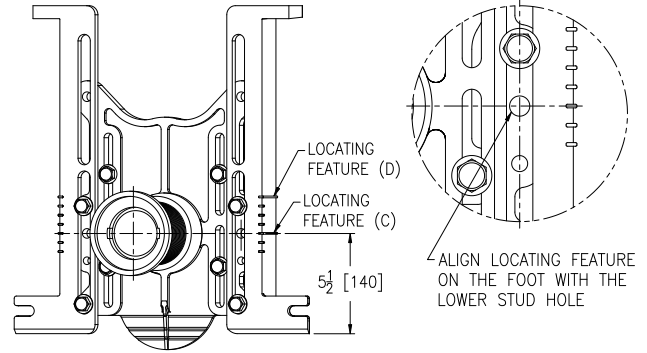

Fig. 6a
6. To adjust the rough-in height, loosen the feet bolts and set the top two bolts to the desired height (adding additional height for tiling where required). There are three holes on each side of the face plate, whenever possible, always use the two holes furthest from each other when securing the feet. Secure bolts using wrench (25-35 lb-ft of torque). Use caution to keep the feet parallel when adjusting the height. See Fig. 6a.